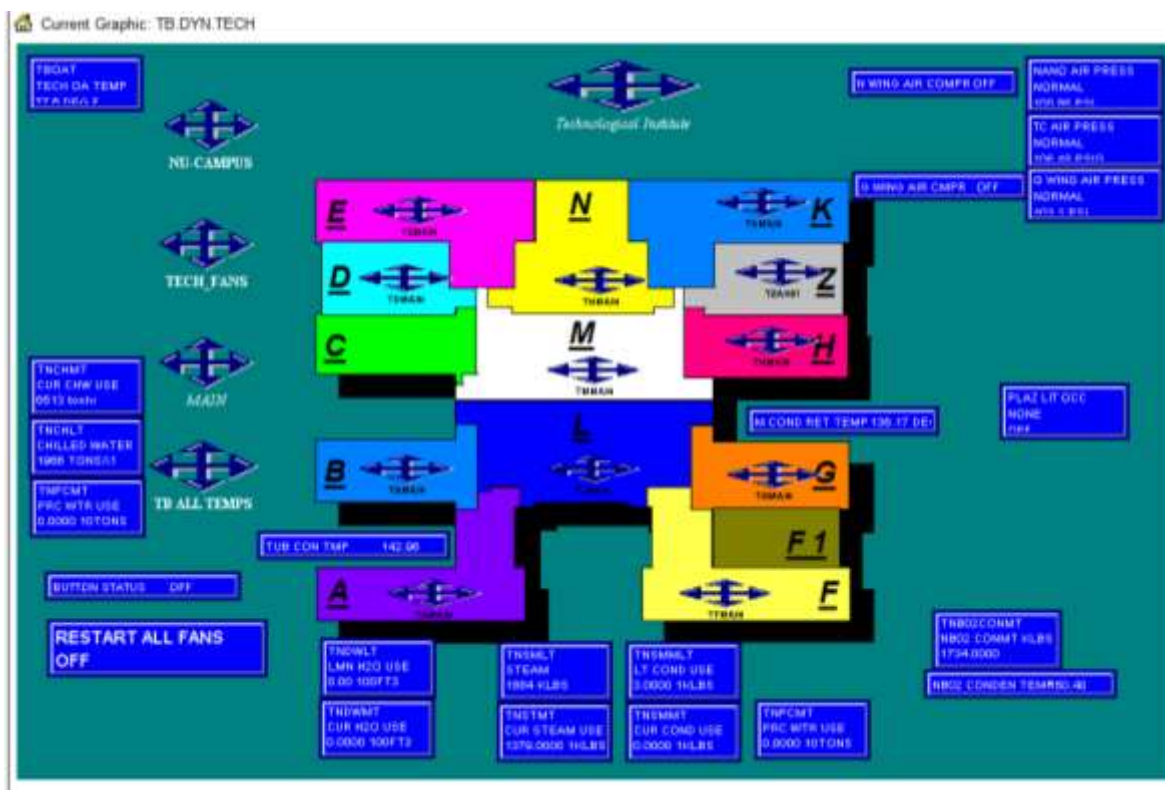

Figure 3: Floor Plan Graphic Example
- Overall floor plan shall be color-coded/hatched by AHU zones (see Figure 3 below).